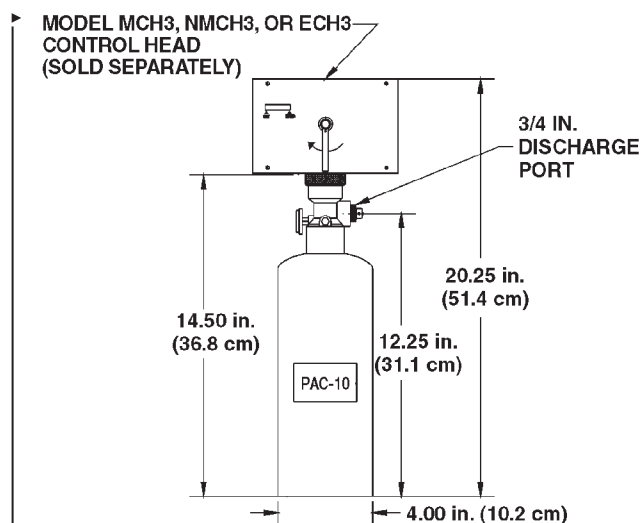

Figure 2-8. Model PAC-10 Pneumatic Actuating Cylinder.
The Model PAC-10 is a pneumatic actuating cylinder that can actuate a maximum of ten (10) agent cylinders simultaneously. The Model PAC-10 includes a DOT 4BA350 cylinder pressurized with dry nitrogen to 350 PSIG @ 70° F., a brass valve with pressure gauge, and a wall mounting bracket. A Model MCH3, NMCH3 or ECH3 control head must be purchased separately and connected to the PAC-10 to open the valve. **See Figure 2-8.**